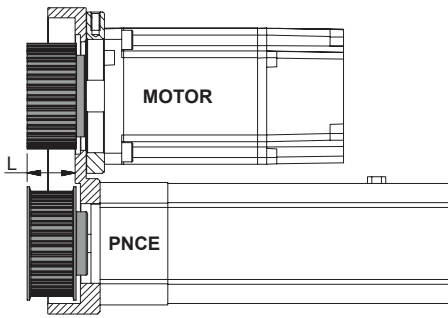

Figure 24: Clearance (pulley mounting distance L).
STEP 2: After the housing **1** has been mounted on the electric cylinder, the PNCE belt pulley **3** with the self locking device **4** and the toothed belt **5** must be fitted on the drive journal of the PNCE. Adjust the clearance (pulley mounting distance L) as it is shown in Figure 24 and Table 5. The self locking device **4** must be completely inserted into the bore of the PNCE belt pulley **3**. Tension the self locking device **4**.